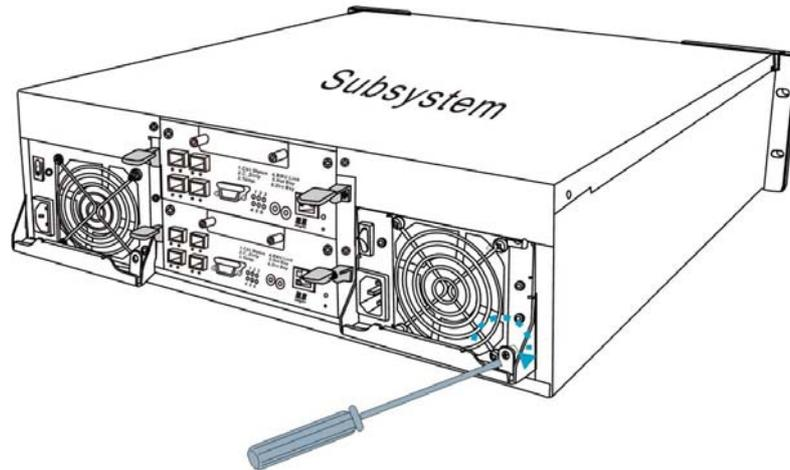

Figure 5-15: Fastening the PSU Retention Screw
**Secure the PSU to the subsystem** by fastening the retention screw through the PSU extraction handle. (See *Figure 5-15*)